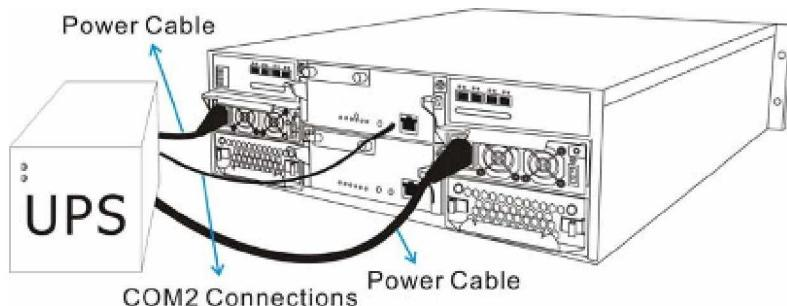

Figure D-2: Connecting the UPS to the Subsystem
The two (2) power cords shipped with the subsystem must be plugged into the power cord sockets in the rear of the PSU modules. The plug at the other end of the power cord must be inserted into a socket on the UPS. (See **Figure D-2**) Please refer to the UPS manual to determine the location of these sockets. The UPS must then be connected to main power.
The separately purchased audio jack-to-DB9 serial cable connects the COM2 port on the controller module to the UPS directly. (See **Figure D-2**) The cable transmits UPS status updates to the controller module and will in turn determine the write policy of the controller module. To connect the serial communication cable to the subsystem controller, insert the audio jack connector on one end of the cable into the COM2 port on the controller module. To see how to connect the DB9 connector to the UPS, please refer to the documentation that came with your UPS.